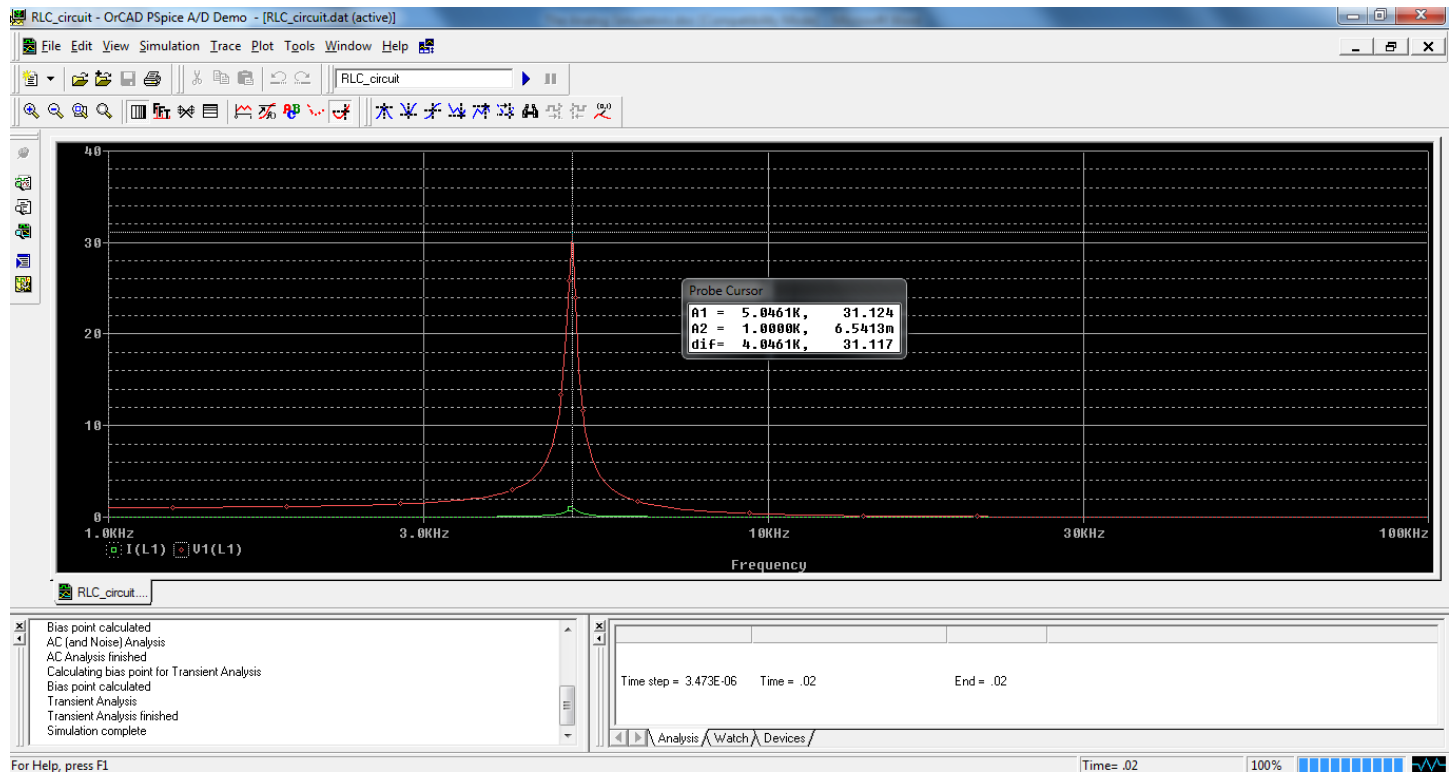

Fig.36. The measurement of the dropout voltage on the inductor (L) in the frequency domain
Finally, the voltage amplitude on the inductor (L) is available by selecting *toggle cursor* feature and by choosing the voltage graph (Fig.36).